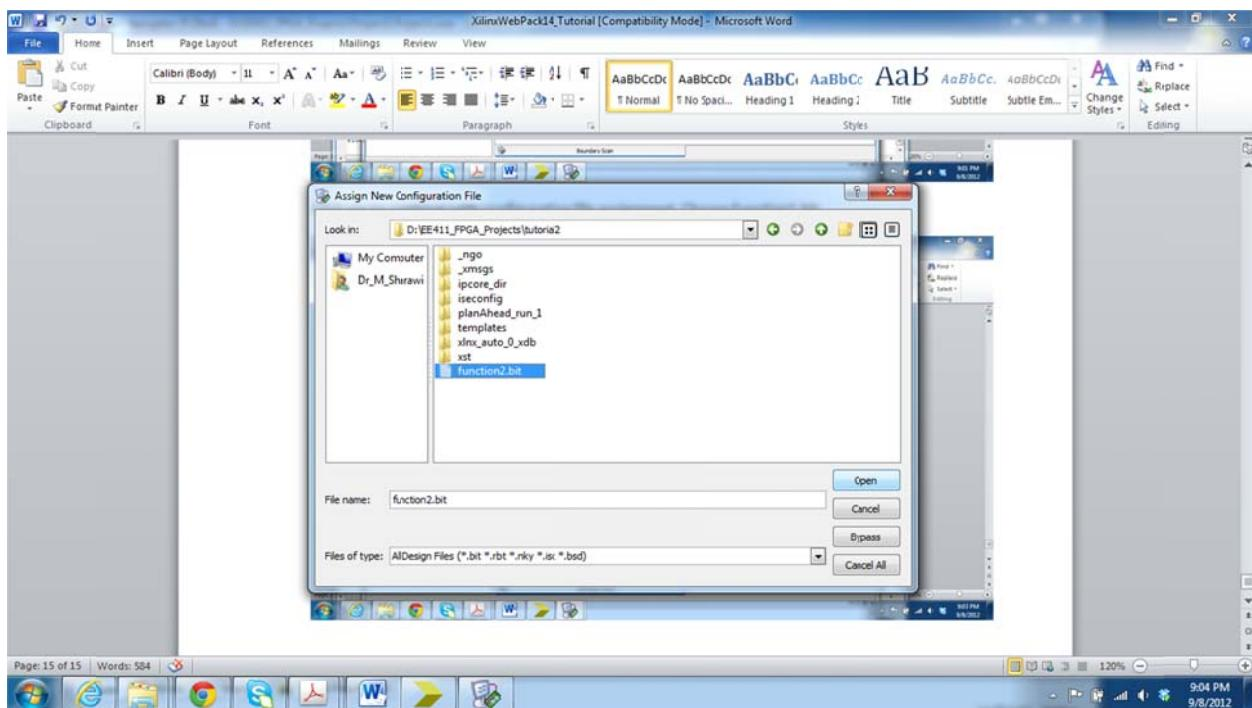

**Figure 14B**
15. Now, double click on **Boundary Scan** and then right click and choose **Initialize Chain** as shown in Figure 14B.